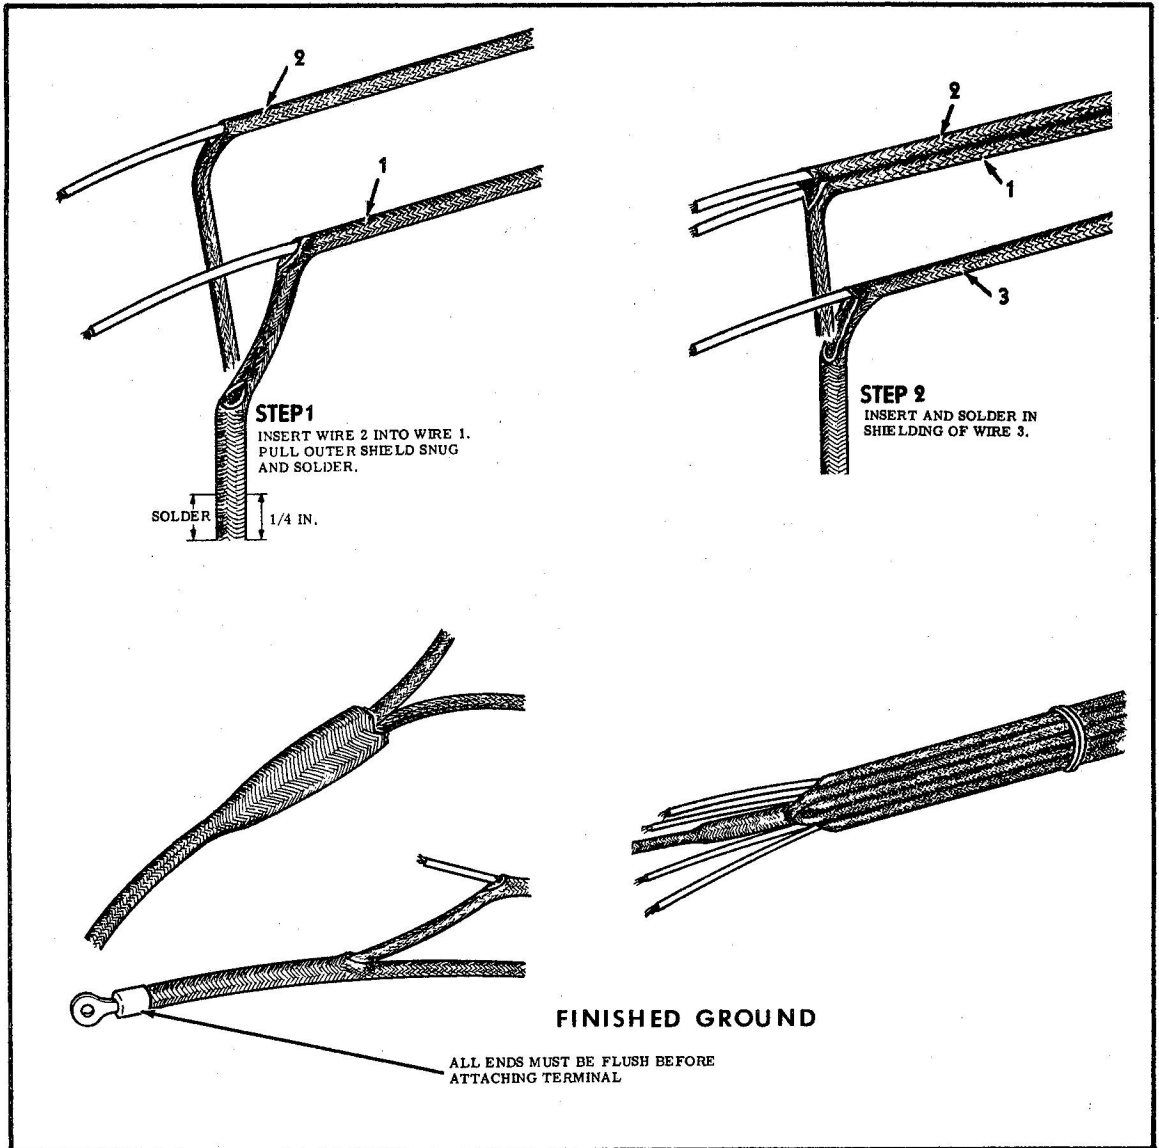

Figure 31 Multiple Shielding Grounds
- (c) Loosen or puff up one pigtail and draw others through it as shown in Figure 31. Attach terminal by approved staking or soldering methods:
- (d) Loosen or puff up shielding inserting the second into the first and soldering as shown in Figure 31. If necessary, repeat the process, soldering as illustrated. If shielding is to be staked, omit the soldering operation.